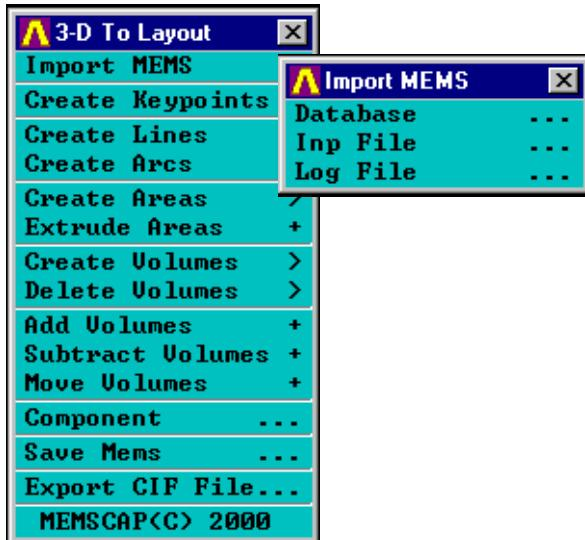

Figure 5: Reading the 3D Solid model
- You can import a 3D model by clicking **Import MEMS** (Figure 5).